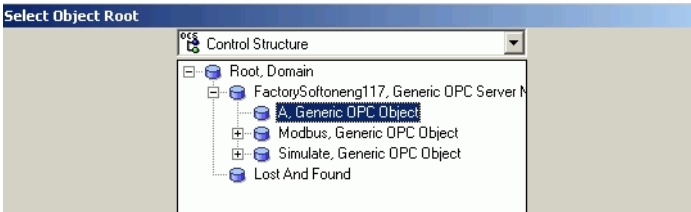

Figure 387. Selecting the Object Root
2. Use this browser to select the structure (and folder if necessary) where the objects that will populate this table reside, Figure 387.
The condition will be annunciated the next time the Database Definition is opened. Tables having the same name will be indicated in red text, Figure 387.